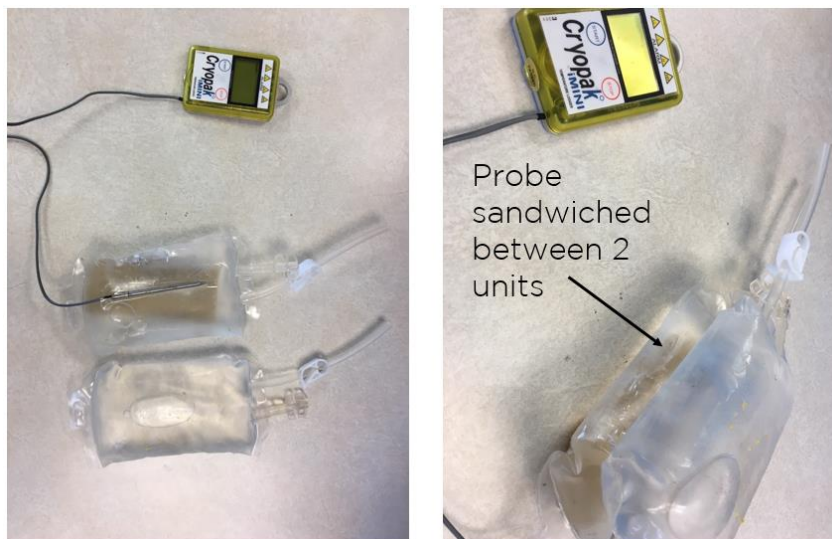

Figure 2
- Place another unit on top of the first unit such a way that the probe is sandwiched between 2 units. For validation purposes, you can use a rubber band around both the units such a way that it will make sure there is no airgap between the units and they stay together (Figure 2).